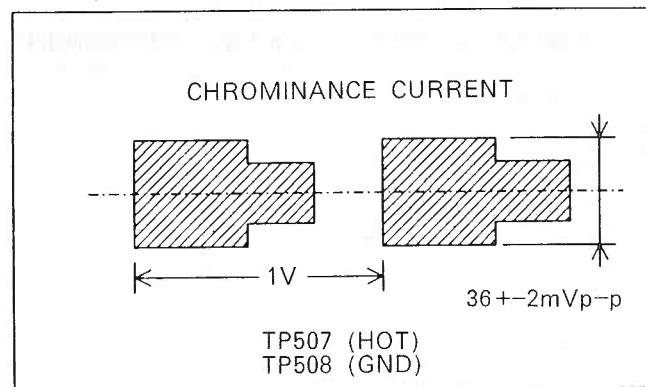

Fig. E8
4. Adjust VR502 so that the Chrominance recording current becomes $36+/-2$ (mVp-p) as shown in Fig. E8.